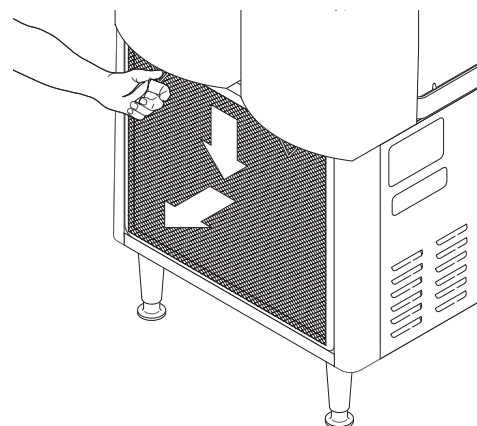

Figure 5
- Remove and clean condenser air filter. See Figure 5.